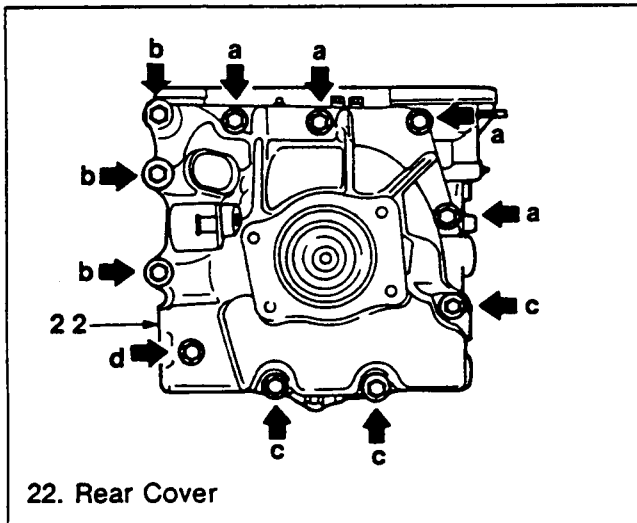

Figure 249. Rear Cover Bolt Installation
4. Attach the rear cover with the proper new bolts, paying attention to the lengths (figure 249).